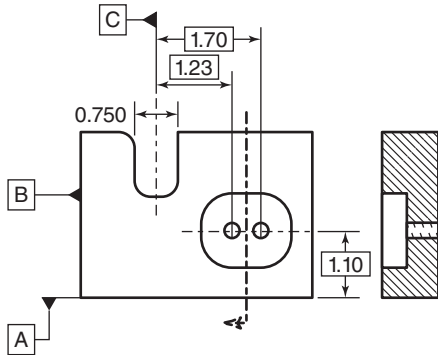

Figure 20-27 Describe the setup holding and alignment tooling for this part per Problem 4.
- You are to set up to CNC mill the internal pocket and two drilled and tapped holes (Fig. 20-27). Sketch the setup tooling if the part has been premilled to a finished square and the 0.750-in. slot has also been machined into the block.